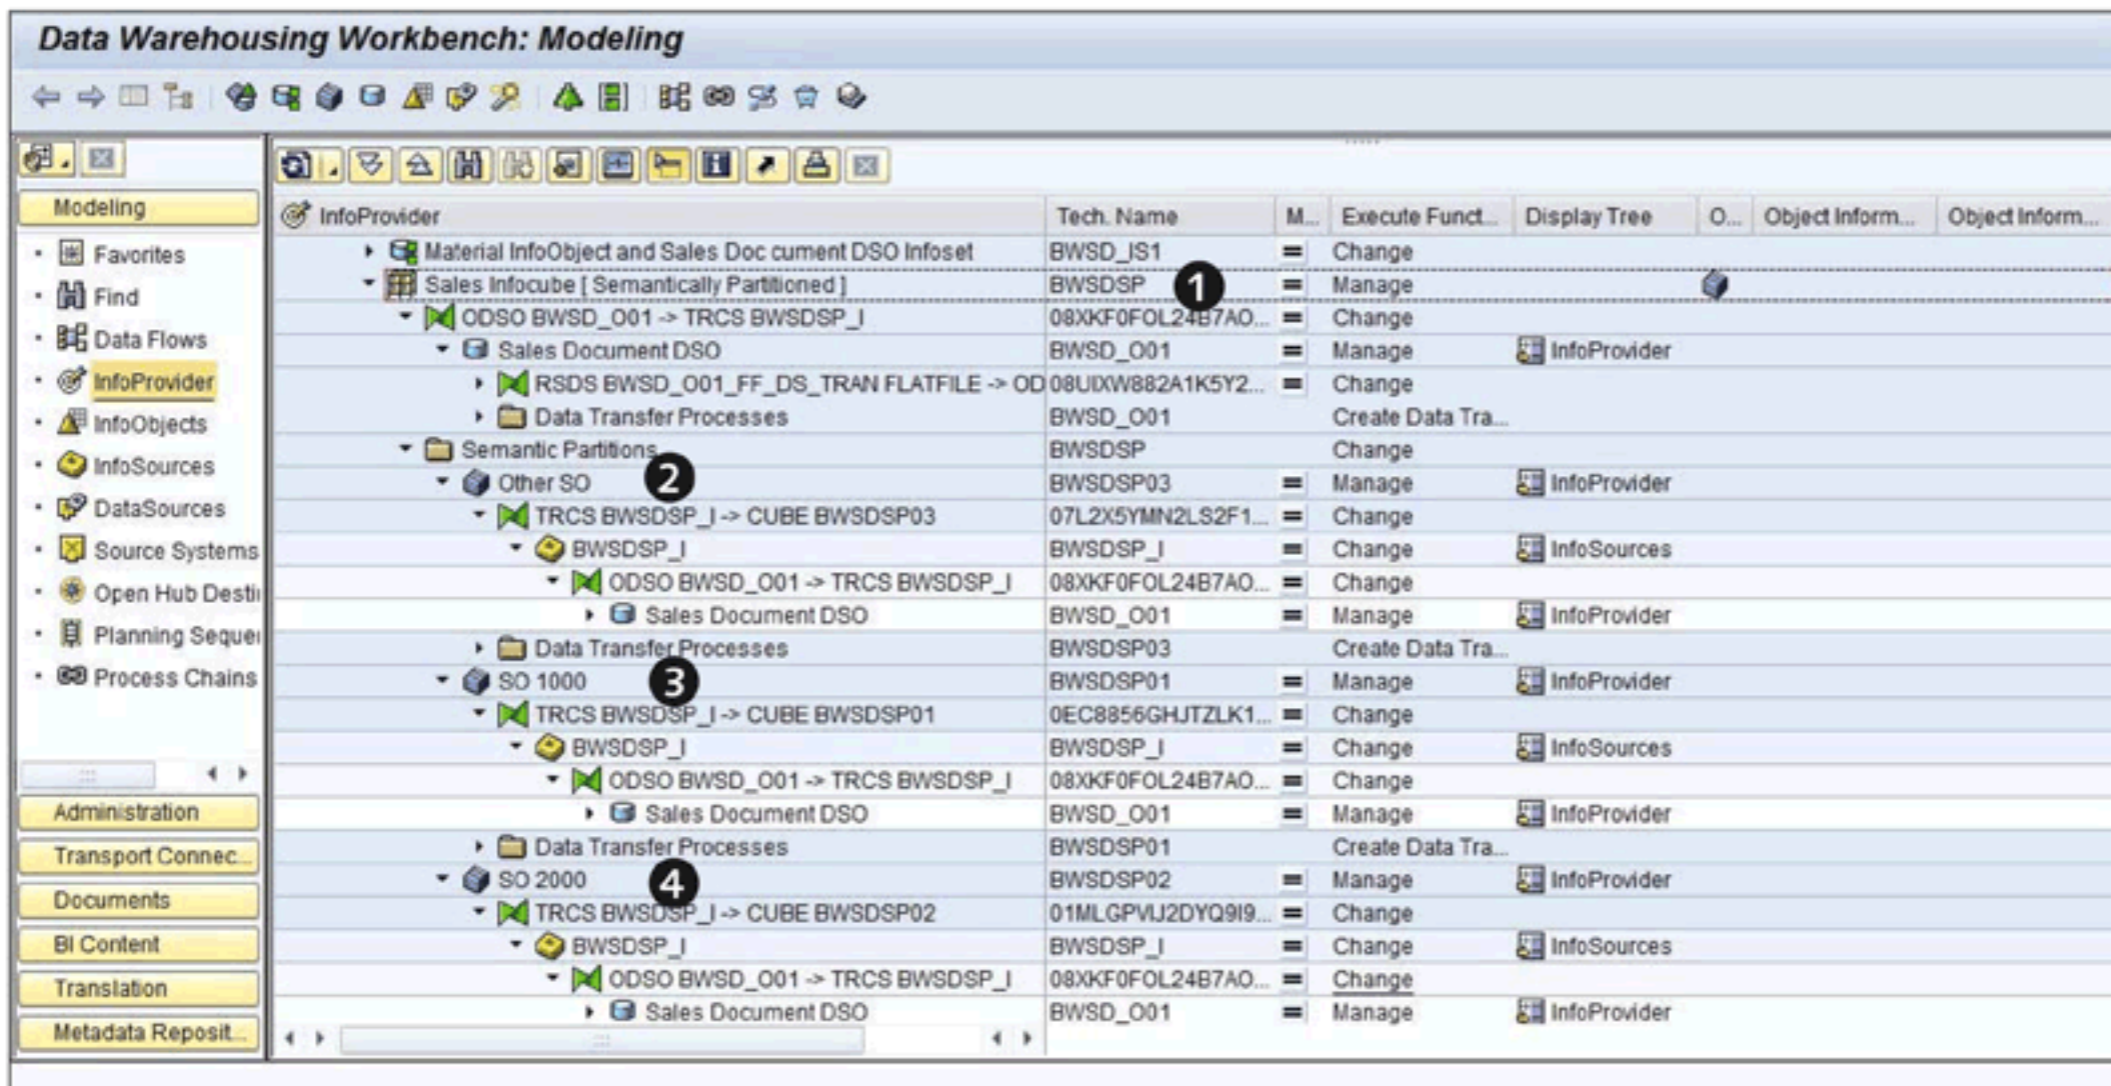

Figure 6.57 Semantically Partitioned InfoCube BWSDSP in the DWW
This step completes the configuration of the SPO. You can view the SPO in the DWW by using Transaction `RSA1`, as shown in ❶ of Figure 6.57.
As shown in Figure 6.57, three InfoCubes (`BWSDSP01`, `BWSDSP02`, and `BWSDSP03`) are shown under SPI `BWSDSP` (❷, ❸, and ❹). InfoSource `BWSDSP_I` and the transformation between the InfoSource and the three partitions are also shown. Just like other InfoProviders, SPOs can be used by BEx tools for querying and reporting.